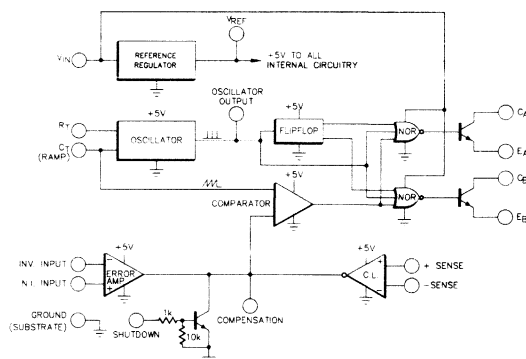
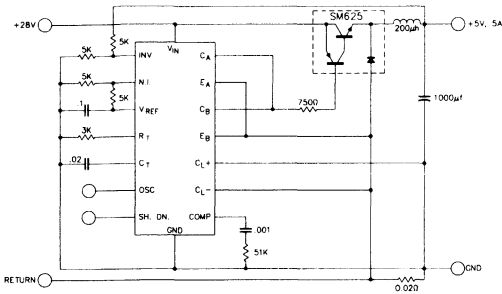

Figure 1. SG1524 Block Diagram
Figure 2. SG1524 Single-Ended Switching Regulator
From the block diagram shown in Figure 1, it can be seen that the SG1524 contains the elements necessary to implement either single-ended switching regulators or DC to DC converters of several different configurations. This device includes a voltage reference, error amplifier, constant frequency oscillator, pulse width modulator, pulse steering logic, dual alternating output switches, and current limiting and shutdown circuitry. Since many of the different types of applications for this IC have been discussed earlier(1) it should suffice to review only two of the more common usages as shown in Figures 2 and 3.
The single-sided regulator of Figure 2 is unique because of its simplicity. This circuit combines an SG1524 with an SM625 hybrid to build a 5 volt, 5amp regulator with all the semiconductor devices contained in only two packages. This circuit has an efficiency of over 70% with an input voltage range of 20 to 30 volts, 0.1% line and load regulation, and some added benefits of constant frequency operation and short circuit protection.